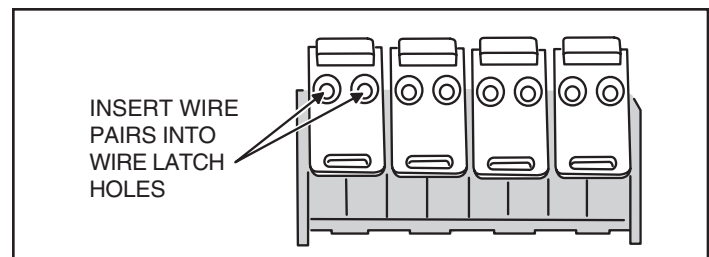

Figure 3. Fully Insert the Wire Pairs
**STEP 4** Observing the color code label on the connector, insert a wire pair (solid color and the same color with a white stripe) completely into the two wire holes in the clear plastic wire latch for that pair color. See Figure 3. **BE SURE THE WIRES ARE COMPLETELY INSERTED.**